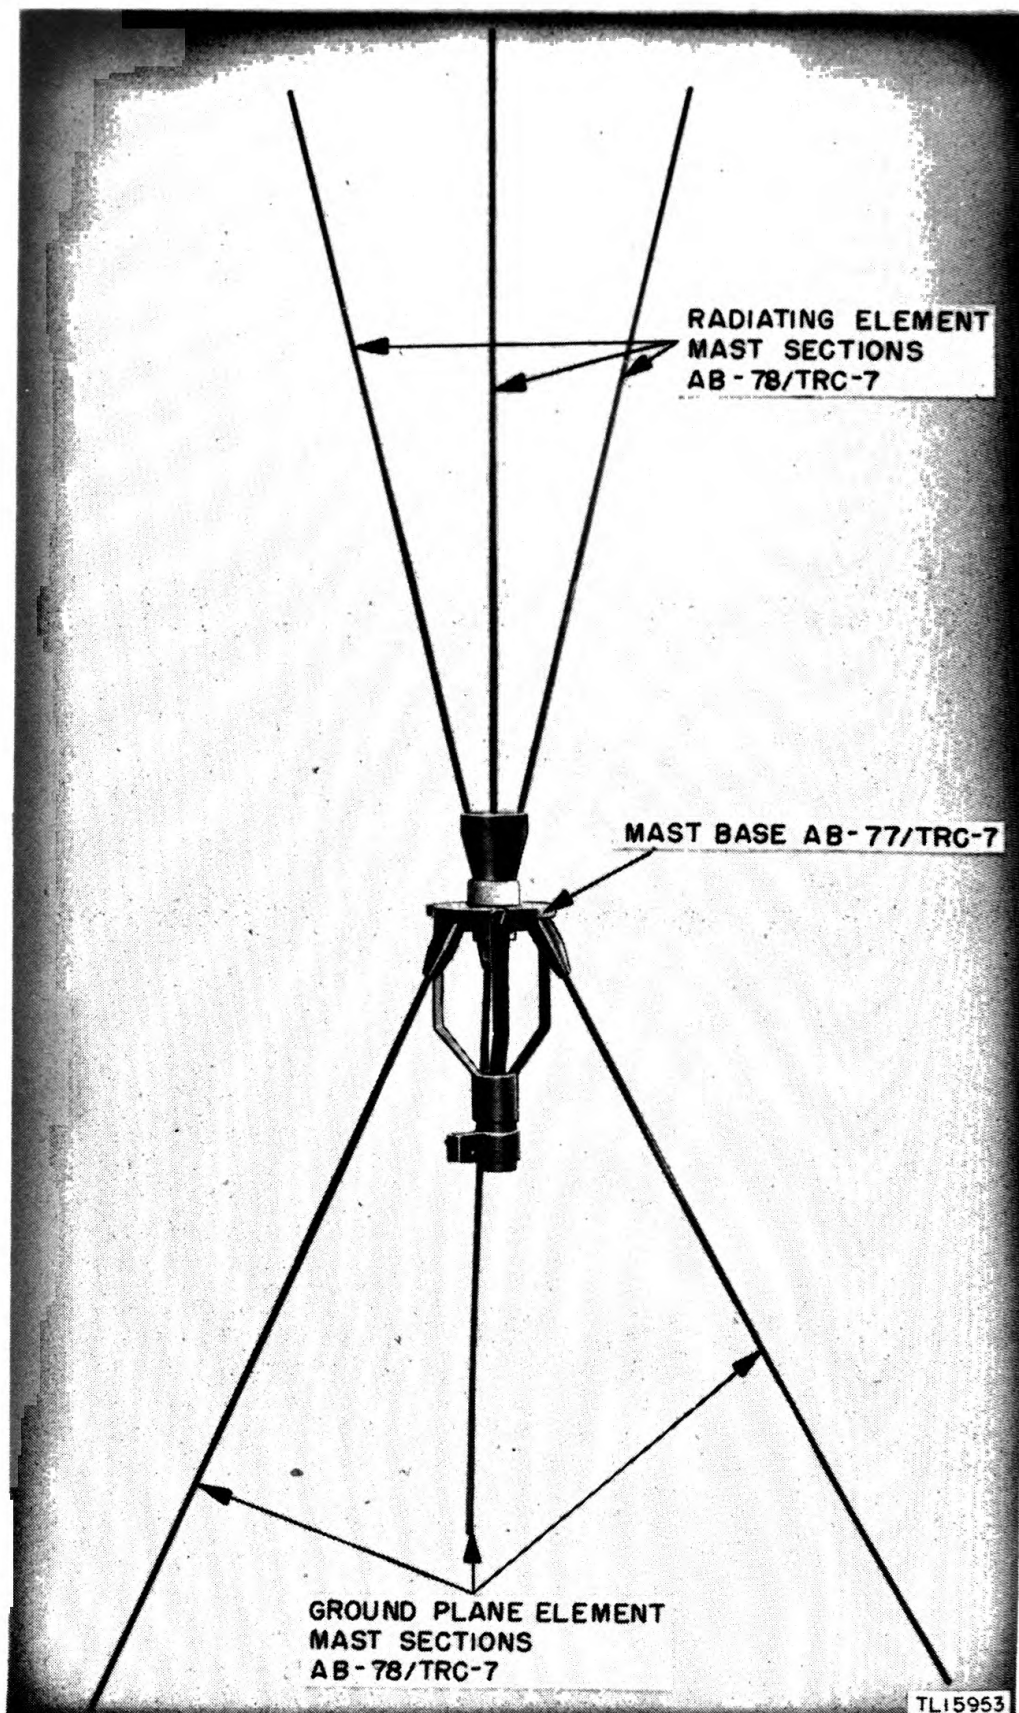

Figure 20. Antenna Assembly AS-112/TRC-7.
a. Antenna Assembly AS-110/TRC-7 is a 12-section, 30-foot unit which is used for fixed location operation of Radio Set AN/TRC-7. The mast sections provide support for the conical antenna (fig. 20). The antenna assembly is anchored in place by three sets of two each nylon guy ropes arranged so that one man can erect it (par. 19). A coaxial cable connects the upper section of the antenna to the ANTENNA receptacle on the receiver-transmitter unit.